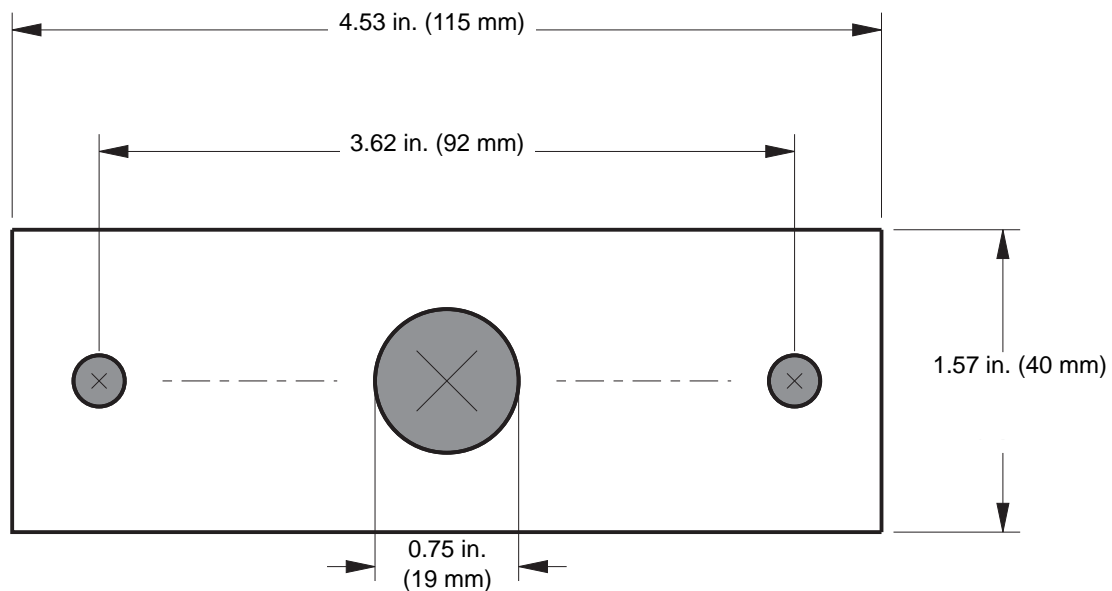

Figure 3-13 Scale Display - Base Install Template
- Drill the required holes where the display is to be mounted (see the template, Figure 3-13).